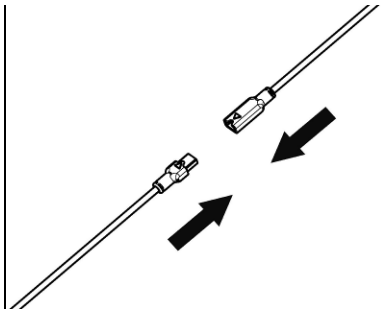

Fig. 2
- Hook up the microphone connector to the other end, following the directions of the arrows (Fig. 2).